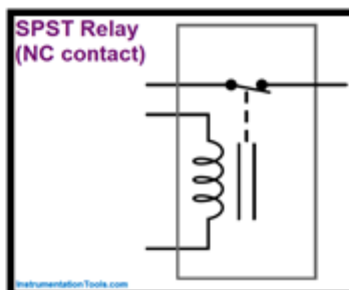

Figure 2.15: The electronic schematic symbol for SPST NC
- c. Single-pole single-throw relays with normally closed (NC) switch contacts will be represented in the electronic schematic, as shown in Figure 2.15 below.